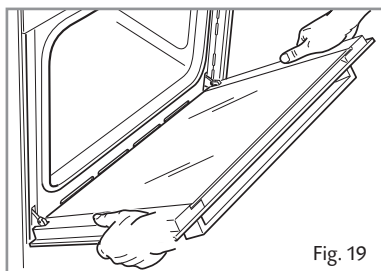

Fig. 19
- Hold the door as shown in fig. 19.